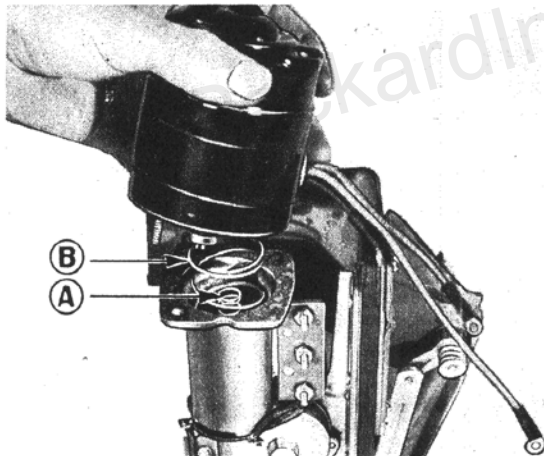

Figure 12 Placing Motor on Housing (Note Position of Motor Wires)
8. Place small spring ("A", Figure 12) on drive clutch.
9. Place large spring ("B", Figure 12) inside housing.
12. Place motor (with wires in position shown in Figure 12) carefully on housing with studs through holes. Be sure that slots in drive shaft mesh properly with ears on drive clutch, and motor seats snugly against gasket. Fasten with two lock washers and nuts and tighten securely.